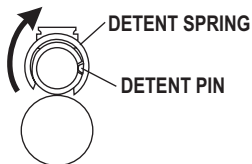

FIG. 6
- RDDs can be removed by opening bolt (See Step 5A), holding muzzle up, and releasing the detent by pushing on detent spring on the side opposite the brass detent pin with left thumb, as shown in Fig. 6, until the RDD is released. RDDs equipped with flight stabilizers must be pushed out of the barrel from the breach to the muzzle.